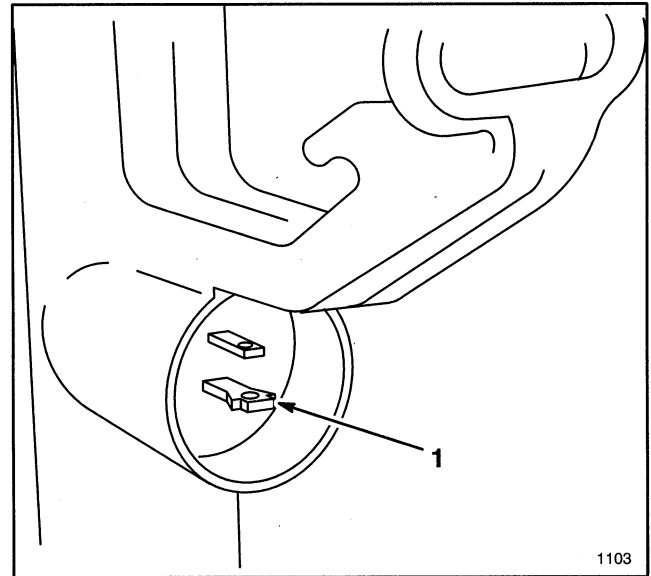

Figure 11
1. Your trimmer has a polarized plug. This means one prong in the handle socket is larger than the other (Fig. 11). When inserting the end of a suitable extension cord into the handle socket, be sure to insert the enlarged prong into the wide slot in the extension cord end.